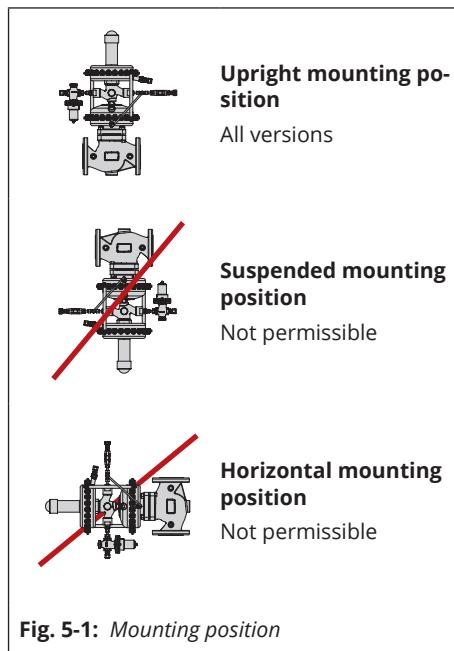

Fig. 5-1: Mounting position
- Mounting position: install the actuator housing suspended upward in horizontal pipelines (see Fig. 5-1).